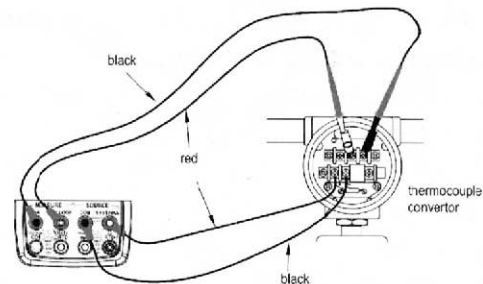

Figure 15 Using 24V loop power circuit supply
Step 2: Connect the calibrator with the loop current terminal of the converter as shown in Figure 15.